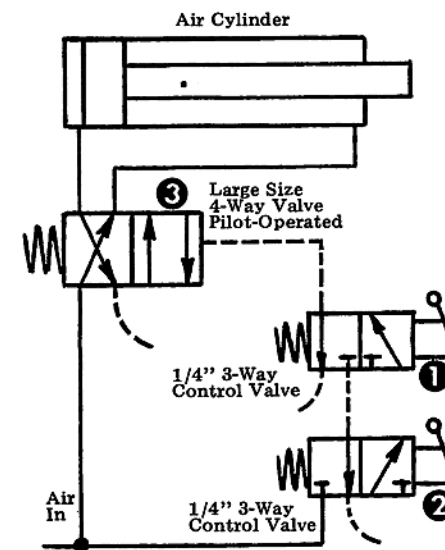

Figure 3. 2-Hand Manual Operation of Air Cylinder.
**Figure 3.** The preferred method of 2-hand control on an air cylinder is to use a large 4-way valve, pilot-operated, for directional control of the cylinder. Two small 3-way air valves, 1 and 2, control pilot pressure to the main valve.
Because of the compressibility of air, the circuit of Figure 3 is considered to be better and safer than other circuits which place Valves 1 and 2 directly in the cylinder lines, one connected to each cylinder port. In the latter case, if only one valve should be actuated, a reactionary load might cause the cylinder to move out of position, or a vertically mounted cylinder might drop under force of gravity.